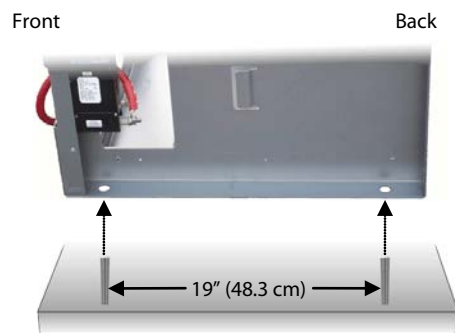

Figure 3 Mounting on Floor Studs
1. Install four ½" studs into the mounting surface (concrete or a similarly reinforced material). From the front to the back, the stud centers should be spaced 19" (48.3 cm) apart, as shown in Figure 3. Spacing from left to right should be 25" (63.5 cm) apart.
2. Lower the battery rack over the four studs as shown in Figure 3 and settle the rack in place.